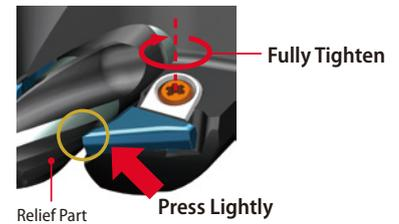

Fig.5 Fully Tighten
**6** Tighten the inserts while lightly pressing the edge of insert against the relief part (Fig.5) (Recommended torque is 3.5N·m)